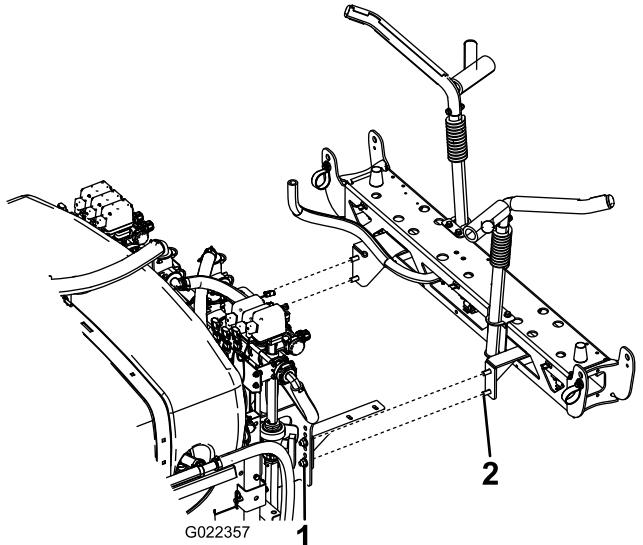

Figure 19
2. Mount the center boom assembly through the third hole from the bottom of the brackets on the spray system assembly, as shown in Figure 19, with 4 bolts (1/2 x 1-1/4 inches) and 4 locknuts (1/2 inch).